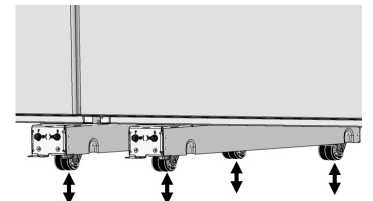

Fig. 8
- c. Use a flat head screw driver or a  $\frac{3}{8}$ " socket wrench to adjust the front bolts of the Leveler Assemblies (Fig. 8). Raise or lower the front and back wheels as needed until the unit rests properly in the cabinet space.